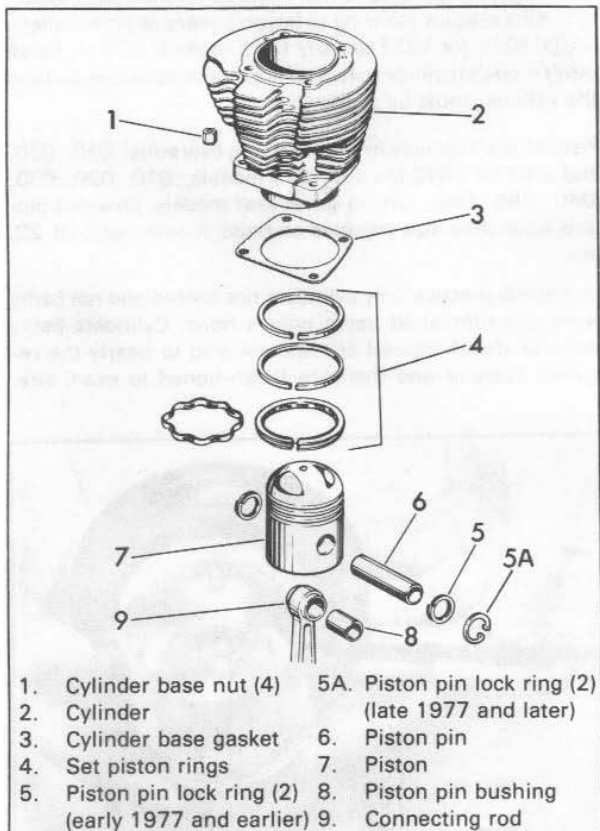
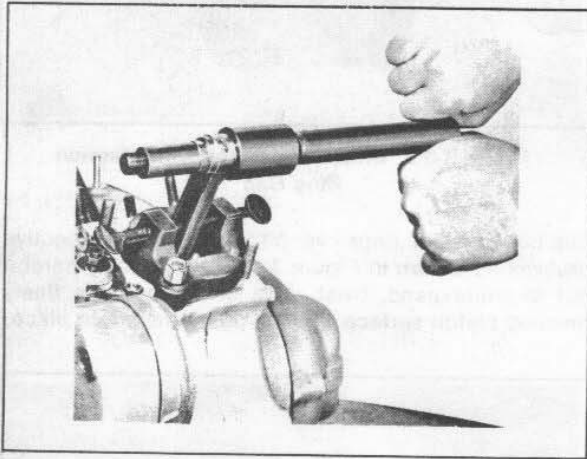

Figure 3-12. Cylinder and Piston - Exploded View
Figure 3-19. Installing New Connecting Rod Bushing
REMOVING (Figure 3-12)
See Figure 3-12, and proceed as follows: Clean crankcase around cylinder base to prevent dirt from falling into crankcase when lifting cylinders. Remove cylinder base stud nuts (1). Raise cylinder and piston just high enough to permit placing a rag over crankcase opening; this will prevent dirt and possibly pieces of broken ring from falling into crankcase. With piston at bottom of stroke, remove cylinder (2), discard cylinder base gasket (3). Using a piston ring expander (Figure 3-19) spring piston rings (4) outward until they clear grooves in piston (7) and lift off. Remove piston pin lock rings (5, 5A) from piston (7) groove. For 1976 and earlier models, use two sharp pointed instruments such as awls to remove ring. For 1977 and 1978 models, use Internal Lock Ring Pliers, Part No. 96215-49. Support piston and tap out piston pin (6) with a suitable drift.
When removing bushings in connection with only a top overhaul, use special tools as shown in Figure 3-19, Bushing Tool, Part No. 95970-32A, and Connecting Rod Clamping Fixture, Part No. 95952-33.
ASSEMBLING CYLINDER AND PISTON (Figure 3-12)